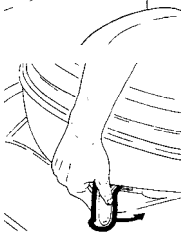

Fig. 10
10. The toilet may be used with the blade open or closed. Pull valve handle towards you to open (fig. 10).